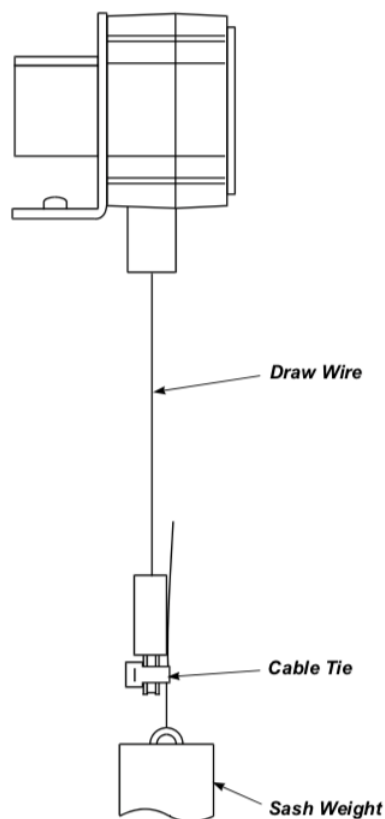

Figure 55: Sash position sensor draw wire attached by cable tie
- The counterweight using a cable (Figure 55).